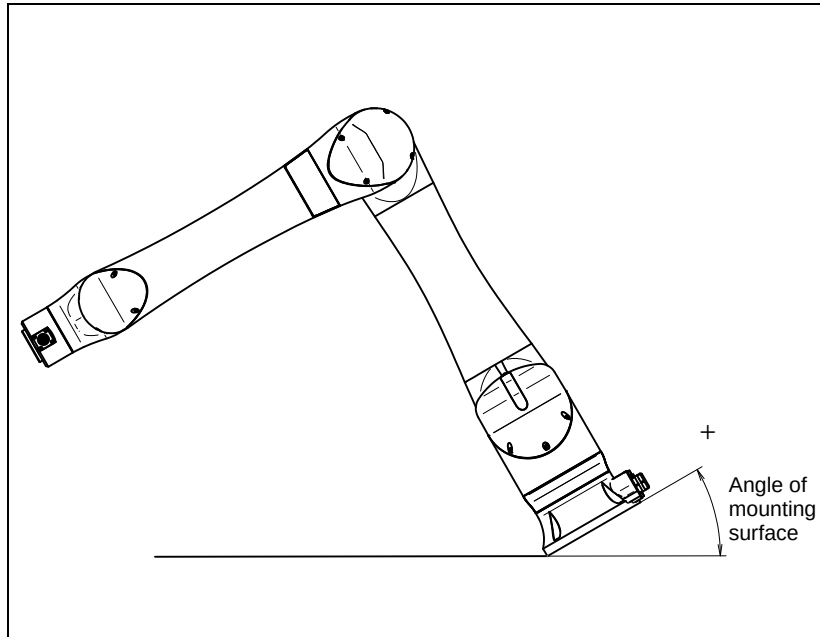

Fig. 1.2.1 (a) Mounting angle
- 6 Input the mount angle referring to Fig.1.2.1 (a).